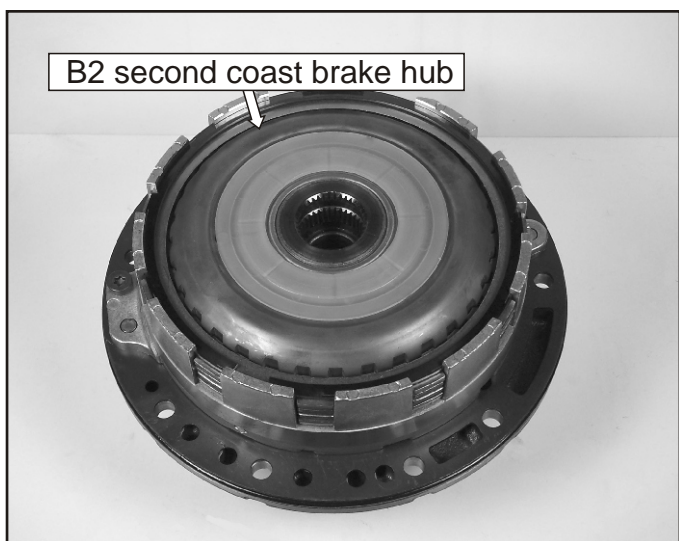

Figure 291
- 215. Ensure that the B2 second coast brake hub is fully indexed into the clutch plates on the back of the pump as shown in Figure 291. Lubricate the pump o-ring.